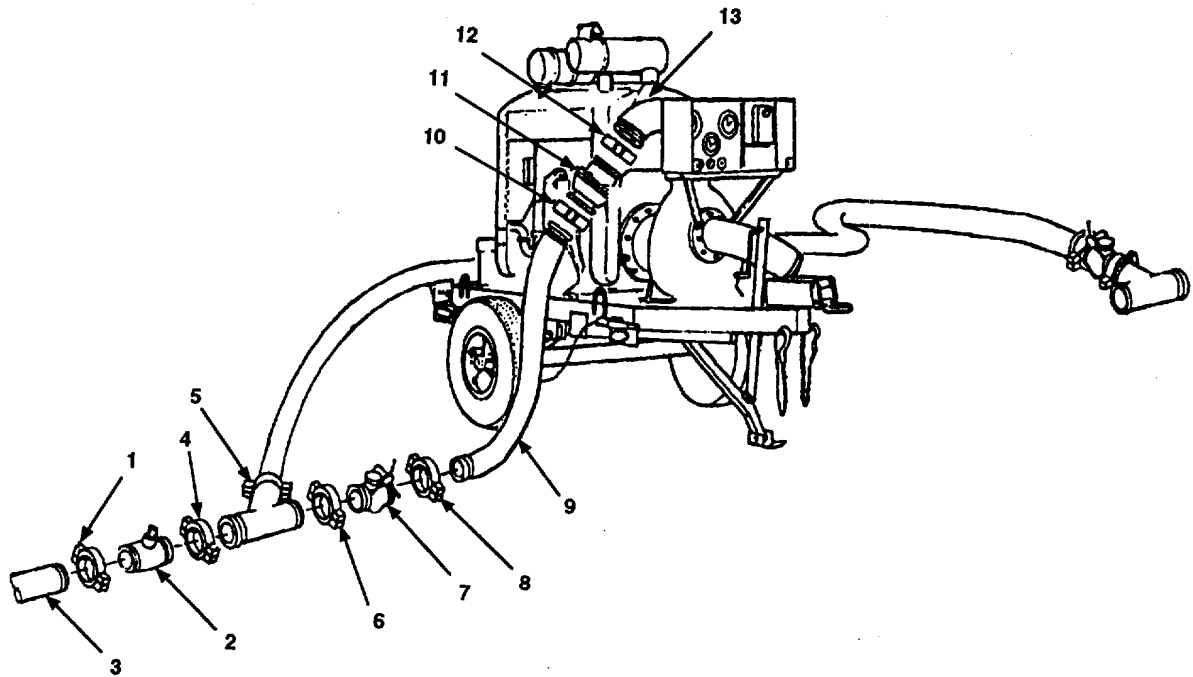
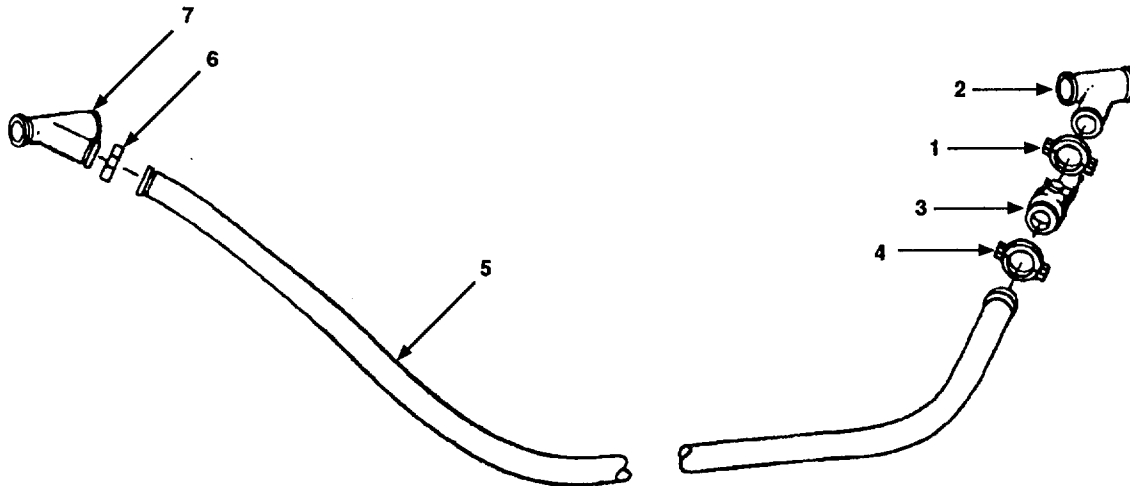

Figure 2-71. Disassembly of Boost Pump Station (Discharge Port).
Figure 2-72. Disassembly of Bypass Hose.
- f. Remove 6 inch grooved pipe coupling (Figure 2-71, 1) (para 2.3.2.1) connecting pressure relief valve assembly (2) to downline hoseline segment (3). Remove downline hoseline segment (3).
- g. Install 6 inch grooved pipe coupling (1) (para 2.3.2.2) on end of downline hoseline segment (3).
- h. Remove grooved-end quick disconnect coupling clamp (4) (para 2.3.3.1) connecting pressure relief valve assembly (2) to lateral grooved pipe fitting (5). Remove pressure relief valve assembly (2).
- i. Remove grooved-end quick disconnect coupling clamp (6) (para 2.3.3.1) connecting lateral grooved pipe fitting (5) to 6 inch butterfly valve assembly (7).
- j. Remove grooved-end quick disconnect coupling clamp (8) (para 2.3.3.1) connecting 6 inch butterfly valve assembly (7) to hose assembly (9). Remove 6 inch butterfly valve assembly (7).
- k. Remove 6 inch grooved pipe coupling (10) (para 2.3.2.1) connecting hose assembly (9) to check valve (11). Remove hose assembly (9).
- l. Install 6 inch grooved pipe coupling (10) (para 2.3.2.2) on end of hose assembly (9).
- m. Remove 6 inch pipe coupling (12) (para 2.3.5.1) connecting check valve (11) to discharge port (13) on pumping assembly, refer to applicable technical manual for location of discharge ports on pumping assemblies not shown. Remove check valve (11).
- n. Remove grooved-end quick disconnect coupling clamp (Figure 2-72, 1) (para 2.3.3.1) connecting lateral grooved pipe fitting (2) to 6 inch butterfly valve assembly (3). Remove lateral grooved pipe fitting (2).